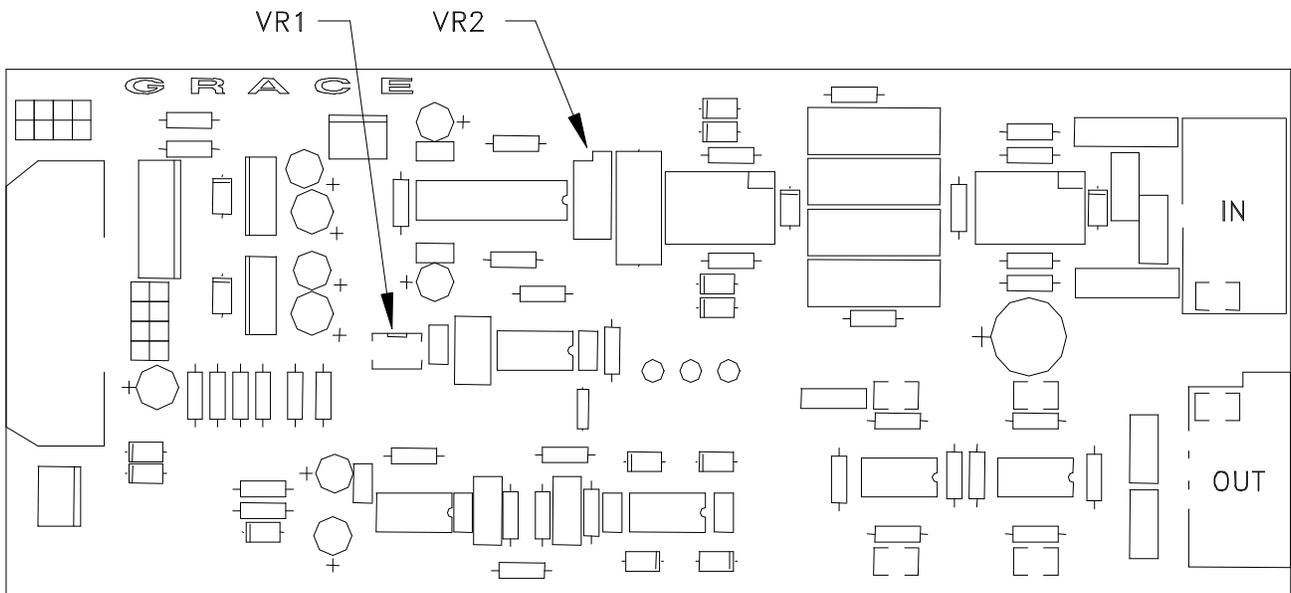
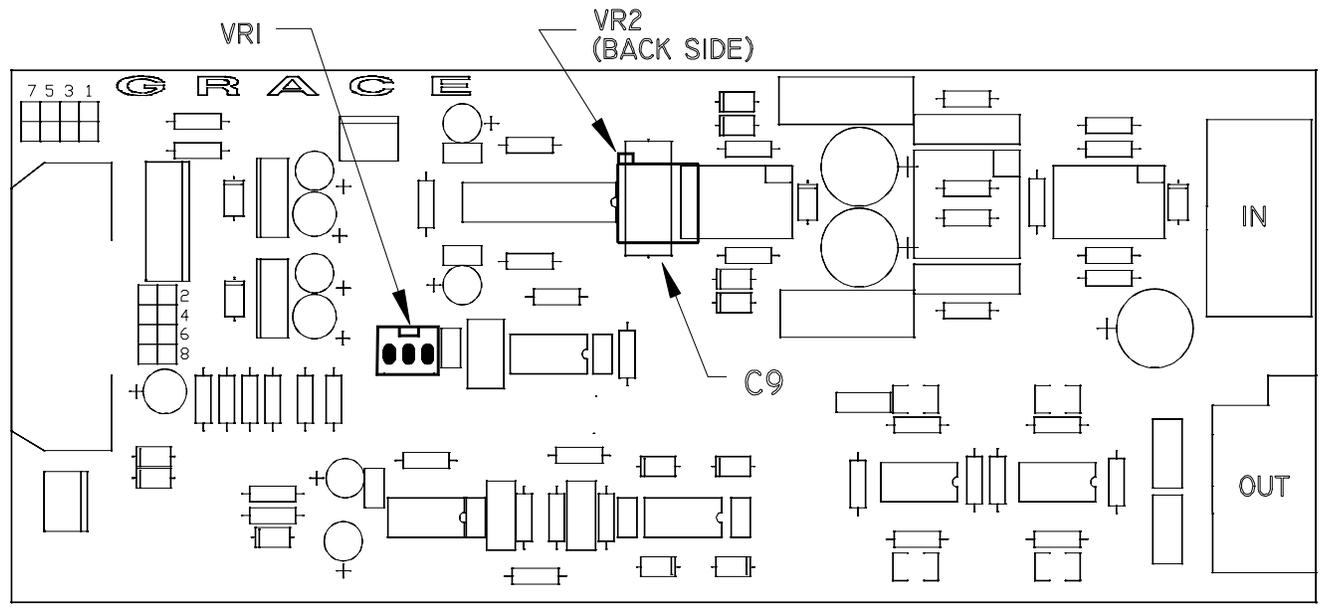

Figure 7. Peak LED Adj. VR1 and Offset Adj. VR2 for serial #81037 and above
Figure 8. Peak LED Adj. VR1 and Offset Adj. VR2 for serial #81036 and below
- vi. Locate VR1 on the channel 1 audio circuit board. (See Figure 7 for serial #81037 and above or Figure 8 for serial #81036 and below) Adjust VR1 until the peak LED is between green and red. The color should appear amber when the setting is correct.
- vii. Remove the top lid and locate potentiometer VR2. (See Figure 7 for serial #81037 and above or Figure 8 for serial #81036 and below)